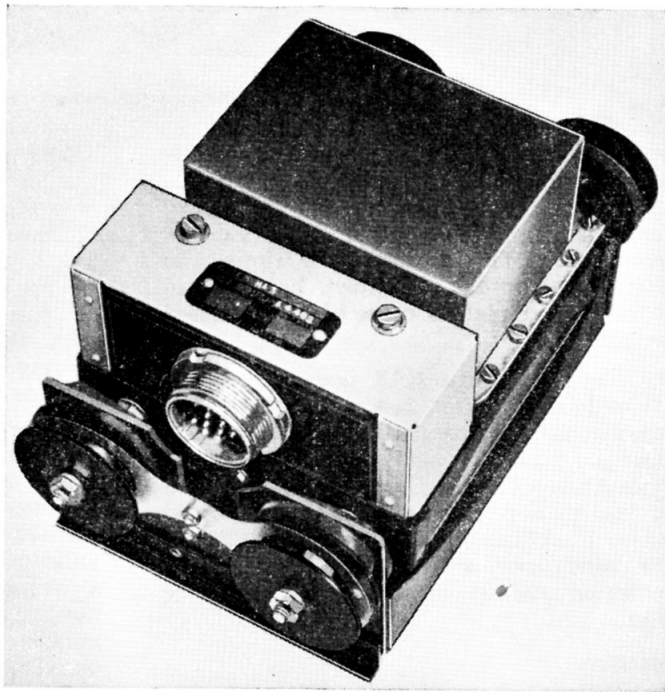

Fig. 1. Balancer relay, Type MA3
2. This balancer relay (*fig. 1*) incorporates two moving coil assemblies and two double-pole, normally-open slave relays, with associated resistors and capacitors. The components are mounted on